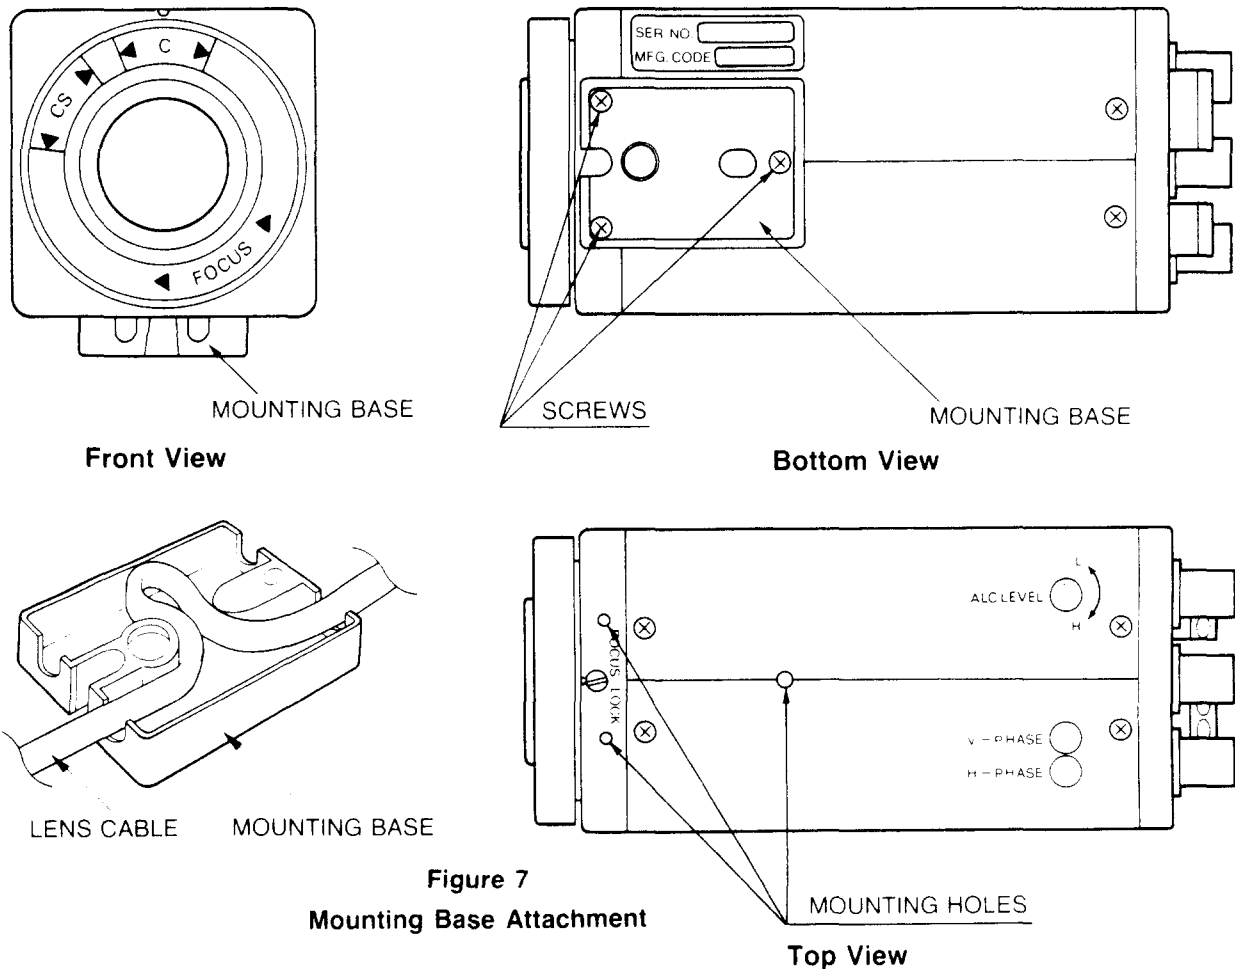

Figure 7
5. Remove three (3) screws securing the mounting base cover to the VC2200 camera. Route the autoiris cable through the mounting base as shown in Figure 7. If the lens cable is not long enough to reach the rear panel autoiris connector, run the cable straight through the mount. Replace the mount cover and secure with three (3) screws.
When it is necessary to relocate the mounting base to the top of the camera, remove the three (3) screws from the mounting base. Locate three (3) mounting holes on top of the camera. Secure the mounting base to the camera top using three (3) screws. See Figure 7. Position the camera at any required angle and bolt it to a suitable mounting surface using 1/4-20 bolts.